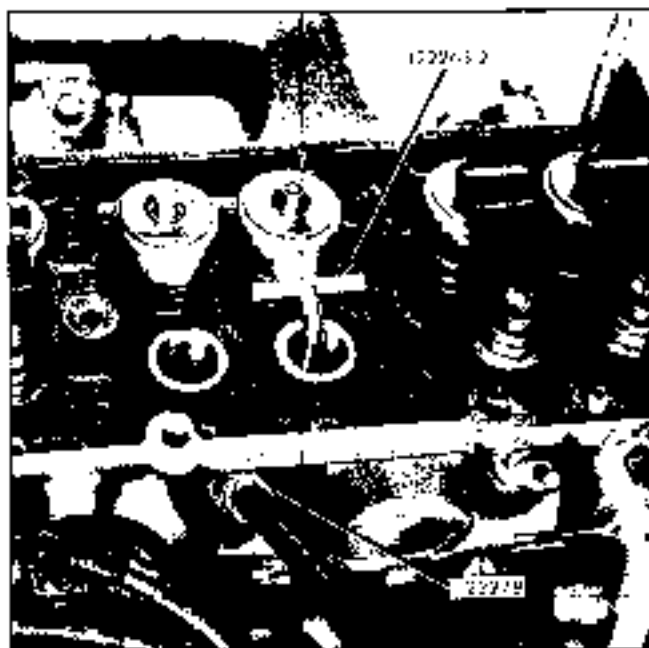

Fig. 6-23 Valve Spring Removal Hook-Up
3. Remove spark plug from cylinder of valves to be serviced and install J 22276 (Fig. 6-23).
5. Install hook end of tool J 22263-2 into oil feed hole in lash adjuster bore (Fig. 6-23).